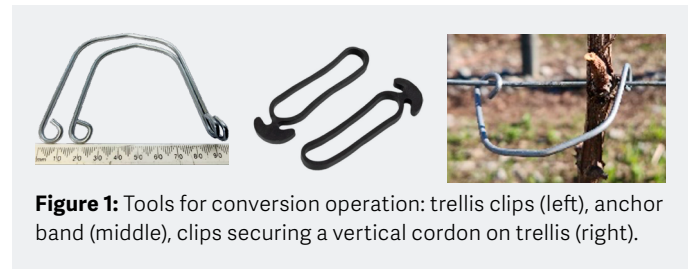

Figure 1: Tools for conversion operation: trellis clips (left), anchor band (middle), clips securing a vertical cordon on trellis (right).
The conversion process requires traditional pruning equipment and tools, including secateurs and loppers (only in the first winter), as well as standard personal protective equipment (PPE) worn during pruning operations (safety glasses, gloves, boots, high-viz). Additional required tools are steel clips to secure vertical canes and cordons on the trellis and anchor bands to secure horizontal cordons (Fig. 1).
- Each upright cane is secured on the top fruiting wire (which is usually fixed and permanent) with a steel clip (Fig. 1).